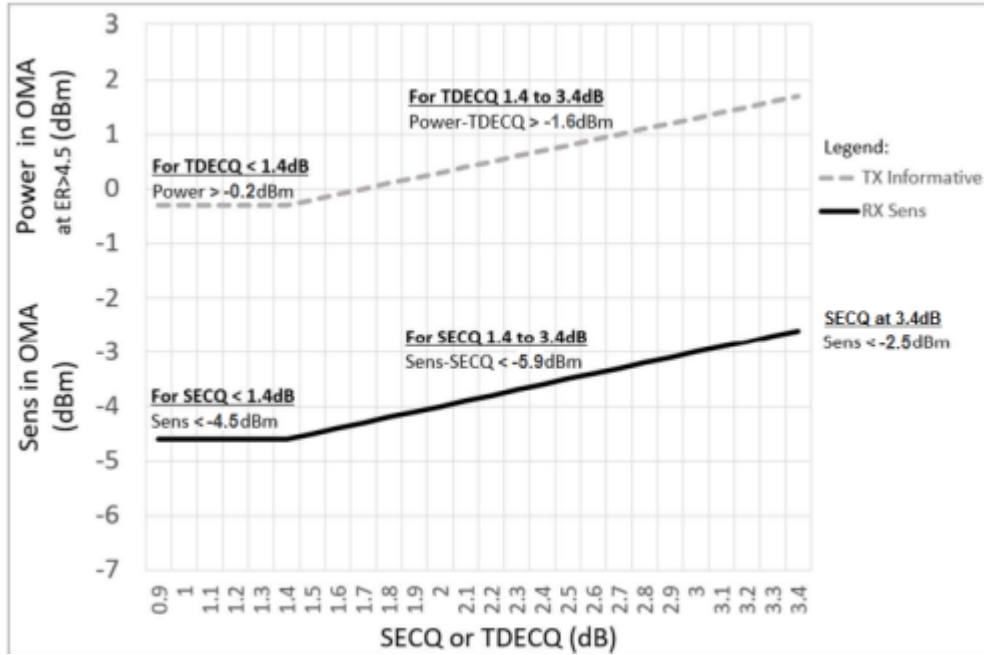

Figure 5. Stressed Receiver Sensitivity Mask
6. Measured with conformance test signal for BER = 2.4x10⁻⁴. A compliant receiver shall have stressed receiver sensitivity (OMA_{outer}) values below the mask of Figure 5, for SECQ values between 0.9 and 3.4 dB.